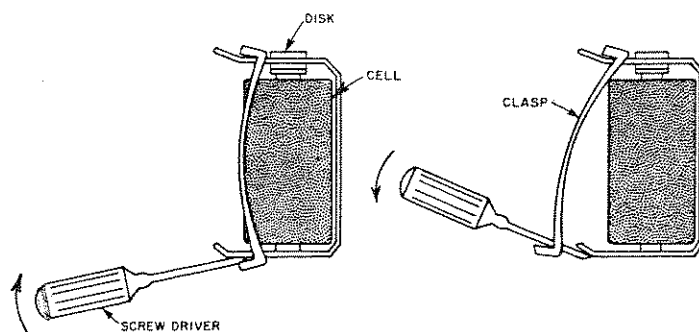

Figure 1-2. Battery removal and replacement.
- Slide the tip of a screwdriver in the slot between the clasp and the frame of the battery holder (see Figure 1-2) and lift the end of the screwdriver toward the top of the instrument. This should spring the clasp loose.